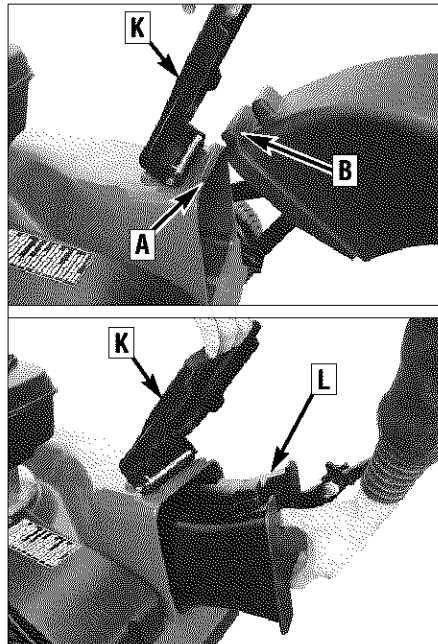

Figure 4-1: TROY-BILT® Rapid Attach™ System.
The Rapid Attach System (Figure 4-1) is a feature designed into the mower deck which enables you to install and remove the Grass Catcher, the (optional) Side-Discharge Chute and the Mulching Plug quickly and easily.
The Grass Catcher and the optional Side-Discharge Chute both use the same system. This system consists of an elongated tab (A, Figure 4-1) on the top of the discharge outlet and a receptacle (B) built into the top of the Grass Catcher door and the optional Side-Discharge Chute.
Attaching the Mulching Plug is just as easy. Hold open the discharge outlet guard (K, Figure 4-1) and insert the plug (L), with the word "TOP" facing up, into the discharge outlet.
2. Lift open the discharge outlet guard (K, Figure 4-1).